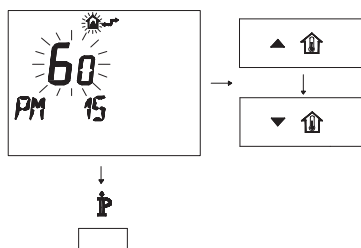

Fig. 7.14
- Modify the programmed SET by acting on buttons  $\blacktriangle$   $\uparrow$  or  $\nabla$   $\uparrow$  until a **setting of 60** is displayed, wait for the number programmed to flash (Fig. 7.14).